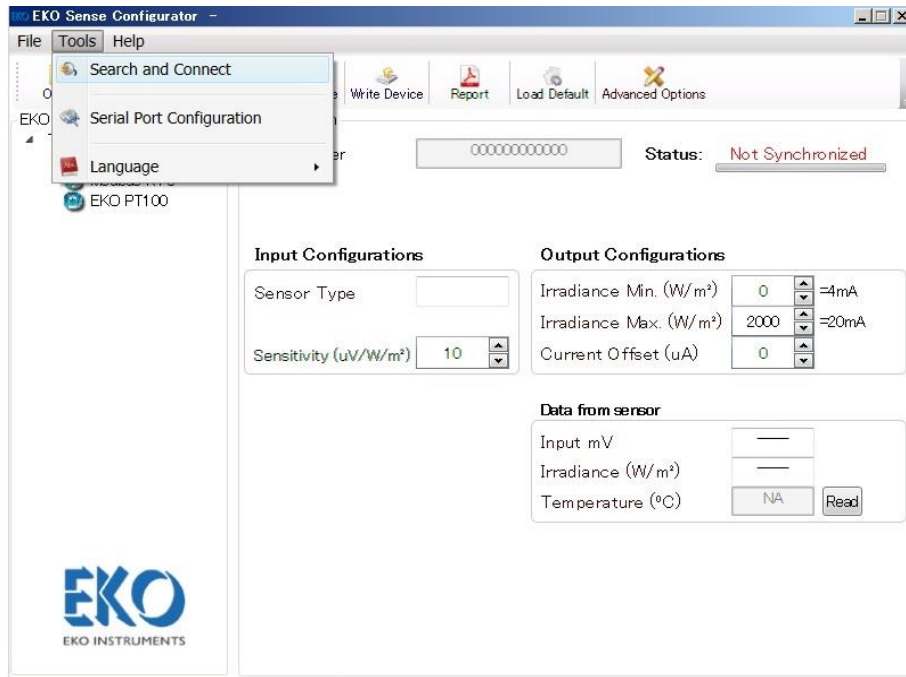
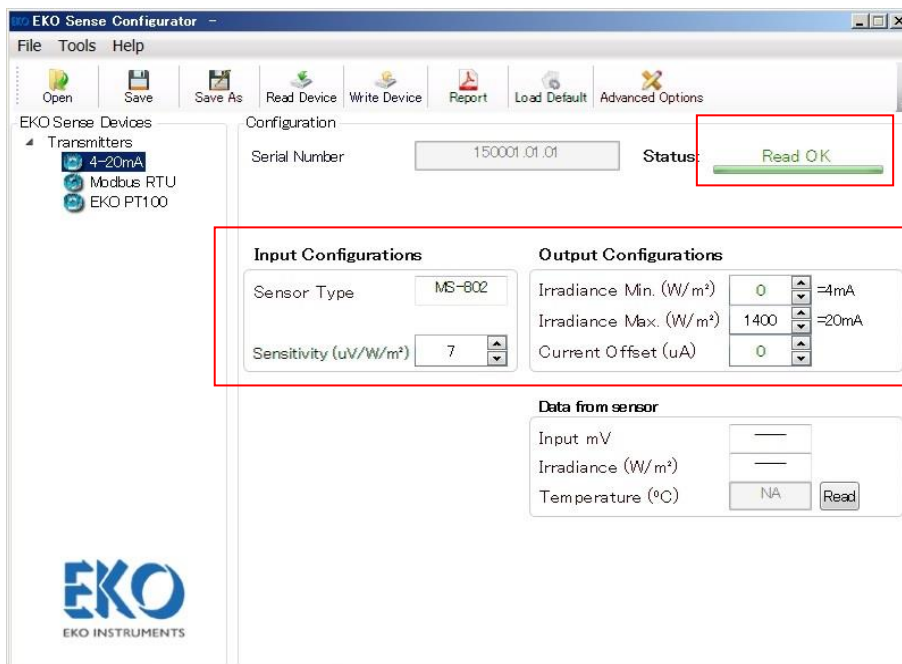

Figure A-10. Device Search & Connection Button
Figure A-12. Configuration Change Window
- c. After connecting between PC, configurator cable and Signal converter according to the previous step in [3) Connection Procedure], click “Search and Connect” from “Tool” menu (Figure A-10). The connection is automatically established, and the connection is completed when it is indicated as “Read OK (Figure A-12)”